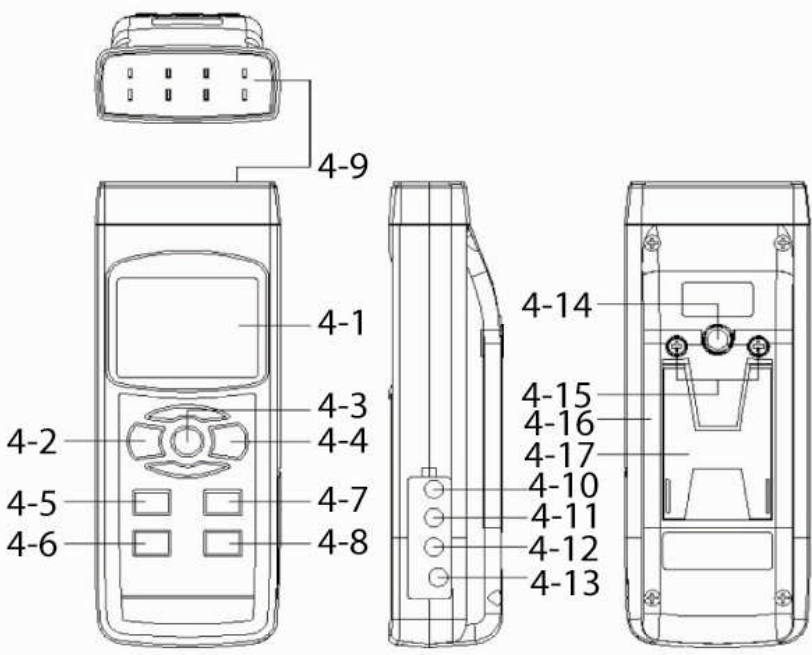

Fig. 1
1. Power on the meter by pressing the “Power Button” (4-3, Fig.1). Note: to turn the power off, press and hold the “Power Button” (4-3, Fig.1) for about 2 seconds.
3. Select the unit of measure, either °C or °F by pressing the “°C/°F Button” (4-6, Fig. 1). The LCD will display the unit of measure. For convenience the meter will retain the unit of measure when it is turned off.
4. Insert the Type K probes into the “Thermocouple Input Socket” (4-9, Fig. 1).
2. Press “Function Button” (4-5, Fig. 1) once. You will see a letter J on the top of the LCD.
4. Insert the Type J probes into the “Thermocouple Input Socket” (4-9, Fig. 1).
2. Press “Function Button” (4-5, Fig. 1) twice. You will see the letters Pt on the bottom right of the LCD.
4. Insert the Pt1 probe into the “Pt1 Input Socket” (4-10, Fig. 1) and/or insert the Pt2 probe into the “Pt2 Input Socket” (4-11, Fig. 1).
1. With the probes already inserted and the meter already setup for either K, J or Pt functions, press the “T1-T2 Button” (4-7, Fig.1).
While taking measurements you can freeze the displayed value by pressing the “Hold Button” (4-3, Fig. 1) once. The HOLD symbol will be displayed along with the held measured value on the LCD. By pressing the “Hold Button” (4-3, Fig. 1) a second time will release the displayed value and turn off the data hold function.
1. To record the maximum and minimum readings, press the “REC Button” (4-4, Fig. 1). The REC symbol will be displayed on the LCD. By pressing the “REC Button” (4-4, Fig. 1) you can toggle through the Max and Min values.
2. To delete the recorded values press and hold the “Hold Button” (4-3, Fig. 1) for about 3 seconds.
3. To stop using the REC function, press and hold the “REC Button” (4-4, Fig. 1) for at least 3 seconds.
1. Press and hold the “Sample Time Button” (4-8, Fig. 1) for about 3 seconds. The bottom of the LCD will display “oFS” and “SP-t”. To leave the setting menu press the “ESC Button” (4-3, Fig.1).
2. Press the “R Button” (4-7, Fig. 1). The LCD display will now show “SP-t” on the top of the LCD , a “00” on the bottom left and a flashing “00” on the bottom right.
3. The bottom left “00” is for minutes adjust and the bottom right “00” is for seconds adjust. To toggle between the seconds and minutes press the “Sample Time Button” (4-8, Fig. 1). The value flashing is the value that will be adjusted.
4. To change the sampling seconds time, use the “▲ Button”(4-5, Fig.1) and/or the “▼ Button”(4-7, Fig.1).
5. Press the “Enter Button” (4-4, Fig. 1) to save settings. Both the seconds and minutes values will flash four times and the unit will then go in to standard measurement mode.
6. If you wish to cancel the settings during the four seconds of display flashing, press the “ESC Button” (Fig. 1).
7. Press the “REC Button” (4-4, Fig.1) momentarily to start the data log function. The REC symbol will be displayed on the LCD. The data logger function can save up to 1000 values of measure (either Humidity & Temp. or Dew Point & Temp).
8. Press the “Logger Button” (4-8, Fig.1) and the meter will start logging. You will see the A flashing on the top of the LCD every time a logging event has occurred. The A flashing will match the number of seconds you set in the setup of the data logger function.
1. Press the “REC Button” (4-4, Fig.1) momentarily to start the data log function. The REC symbol will be displayed on the LCD. The data logger function can save up to 1000 values of measure (either Humidity & Temp. or Dew Point & Temp).
2. Press the “Logger Button” (4-8, Fig.1) every time you would like the meter to record a value. You will see an A flash in the top of the LCD. The meter will not record another measurement until you press the “Logger Button” (4-6, Fig.1) again.
2. Press the “R Button” (4-7, Fig. 1). The LCD display will now show “SP-t” on the top of the LCD, a “00” on the bottom left and a flashing “00” on the bottom right.
1. Pressing the “CLR Button” (4-6, Fig. 1) for about 3 seconds the LCD will display on the bottom “Send” and “CLr”.
2. Press the “R Button” (4-7, Fig. 1) and the LCD will display the number of data points stored in to memory and to enter the clear memory function.
3. Use the “▲ Button”(4-5, Fig.1) and/or the “▼ Button”(4-7, Fig.1) to change the “n” and “Y” in the bottom right of the LCD. The “n” and “Y” are displayed to allow you to tell the meter either “n” NO do not clear memory or “Y” YES clear the memory.
4. Once you have set your answer to either “n” or “Y”, press the “Enter Button” (4-4, Fig. 1). The stored data number will flash for about four times and then the meter will go to the normal measuring mode. To cancel your selection of “n” or “Y” after you pressed the “Enter Button” (4-4, Fig. 1), press the “ESC Button” (Fig. 1). You will then be able to change your answer and repeat step 4.
1. Pressing the “Send Button” (4-6, Fig. 1) for about 3 seconds the LCD will display on the bottom “Send” and “CLr”.
2. Press the “L Button” (4-5, Fig. 1) and the LCD will display the number of saved data points on the top of the LCD and the memory balance in the lower LCD.
3. Press the “Send Button” (4-6, Fig. 1) once will send the data out and the LCD will show the data points being send from zero to the number of stored data.